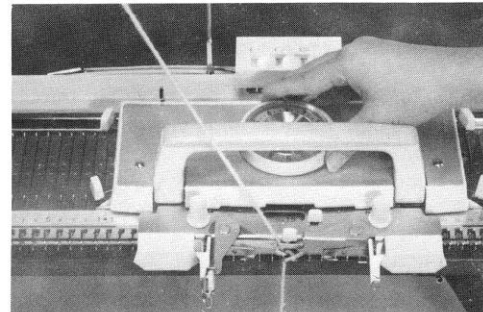

Fig.38
a) Set tension dial to No.2 or 3. (Fig.38)